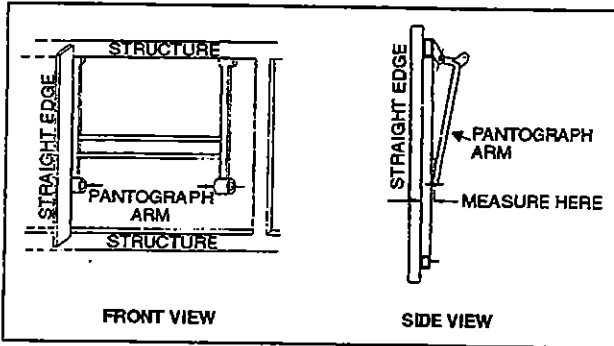

Figure 19
2. Measure distance between a pantograph arm end and a straight edge rested on structure. Repeat procedure for the other arm. The distance on each side should be equal. If not, bend arm end until desired measure is obtained. Refer to figure 19.